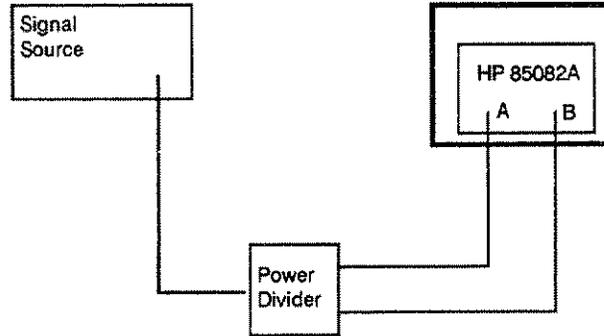

Figure 4-3. Phase Accuracy vs Frequency Test Setup
1. Configure the equipment as shown in Figure 4-3, connecting the probe divider outputs to the HP 85082A inputs with the phase matched cables.